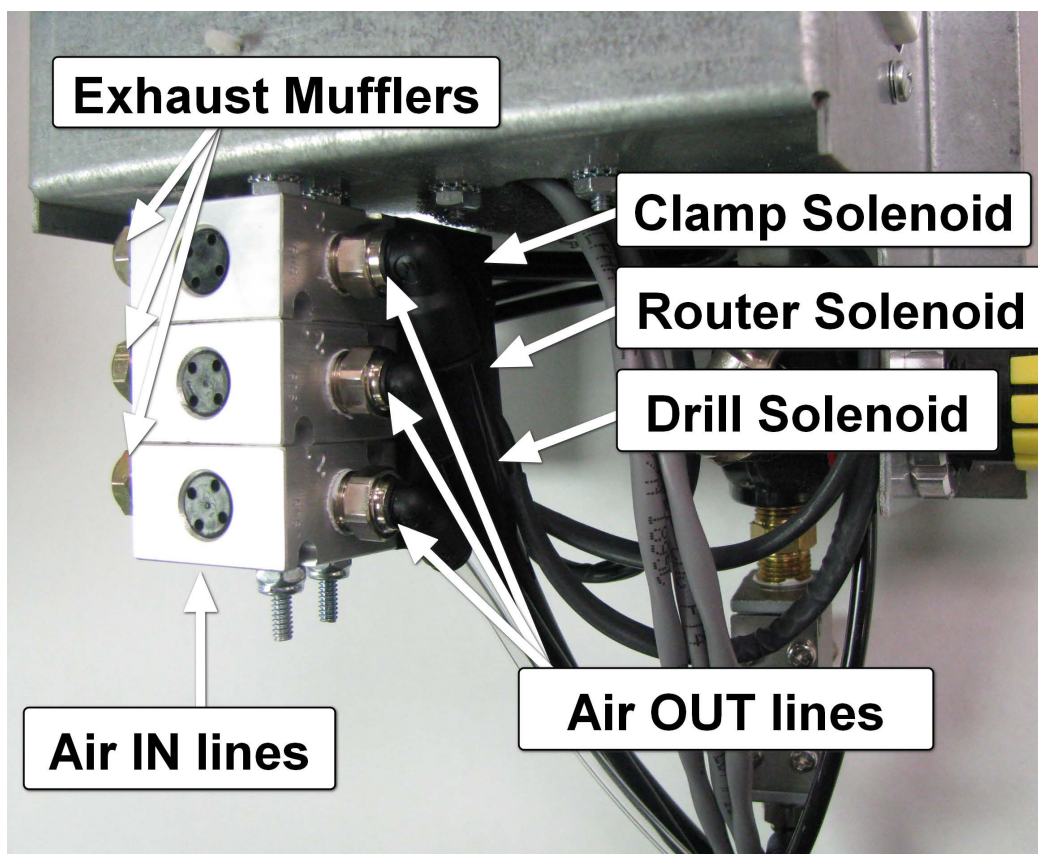
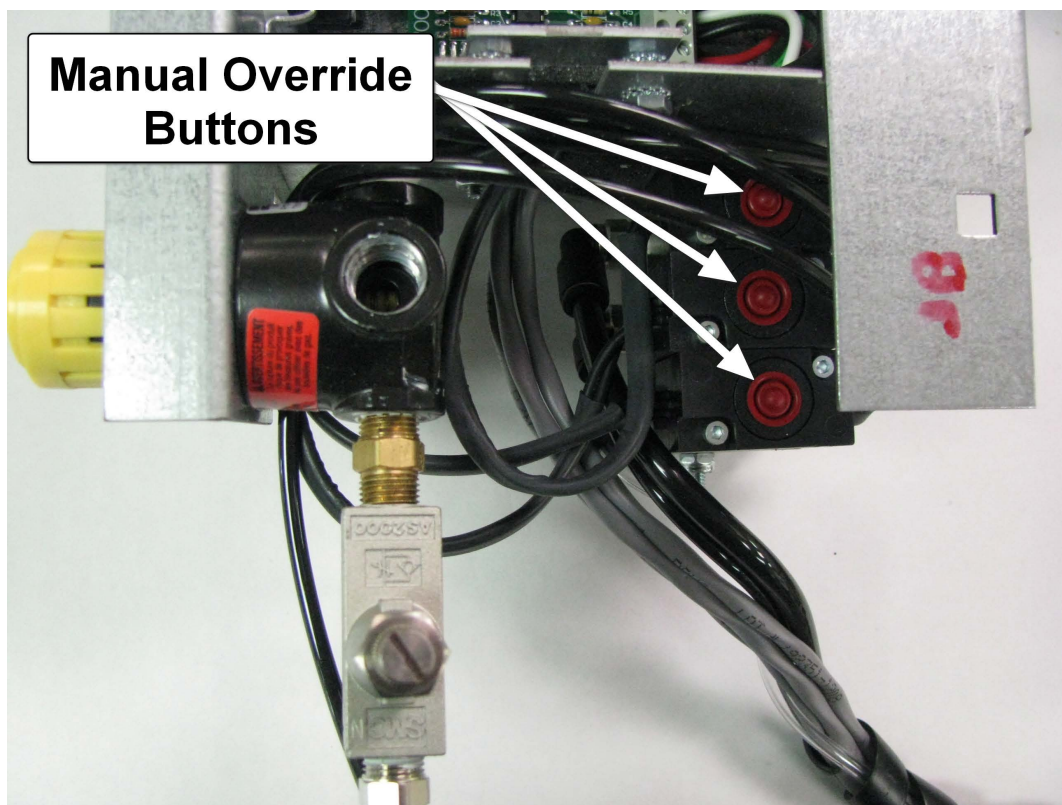

Fig 19a
Fig 19b
3. If the drill does not extend, open rear door and locate the manual override button on the drill solenoid. **See Fig 19a and Fig 19b.**